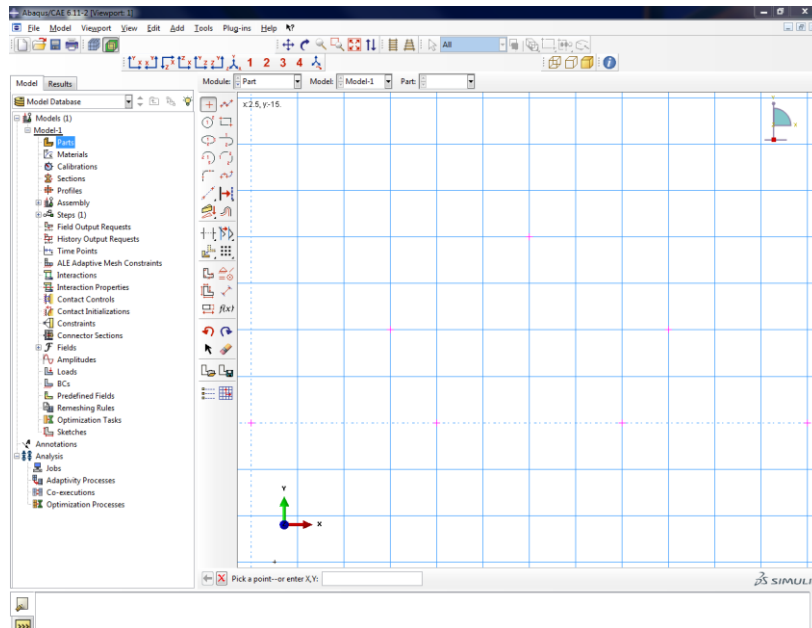

Figure 4. View of Seven Points
- If all the points cannot be seen in the Viewport, click **F6** on your computer keyboard to auto-fit the window to the contents. After auto fitting, the screen should look similar to Figure 4.